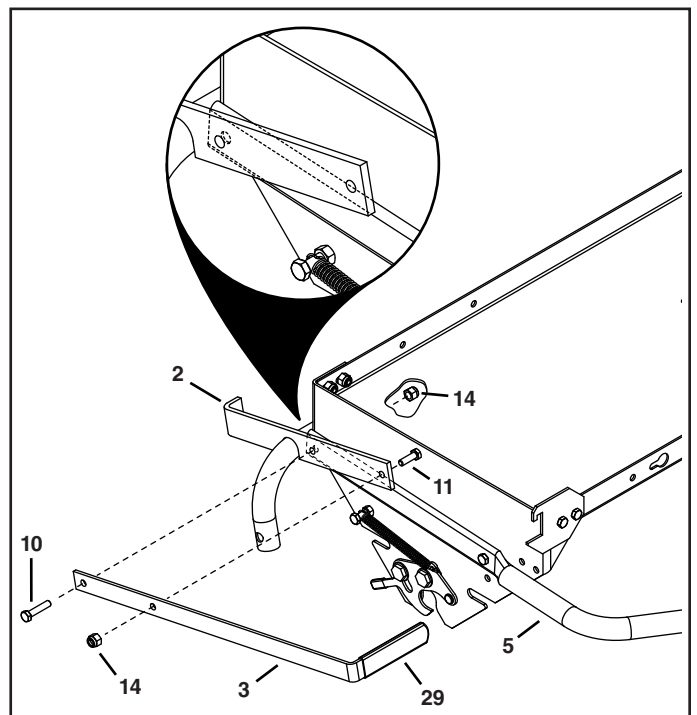

FIGURE 4
8. Assemble the grip (29) onto the lift handle (3).
9. Attach the lift tube assembly (2), the lift handle (3), and the hitch tube (5) to the rear hole on the right side of the tray using a 5/16 x 1-1/2" hex bolt (10) and 5/16" nylock nut (14). **Tighten** the nut then loosen 1/2 turn. See figure 4.
10. Secure the top hole of the lift handle to the top hole of the lift tube assembly with a 5/16" x 1" hex bolt (11) and 5/16" nylock nut (14). **Tighten.** See figure 4.